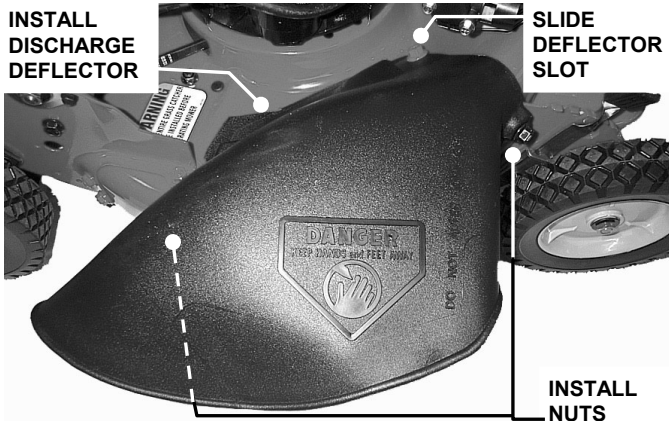

FIGURE 2.13
2. Install discharge deflector and secure to deck using hardware removed in Step 1. Slot in front edge of discharge deflector must be under nut as shown and both bolts protruding through holes in the side of the deflector. Secure nuts to the side of deflector. Tighten nuts securely. See Figure 2.13.